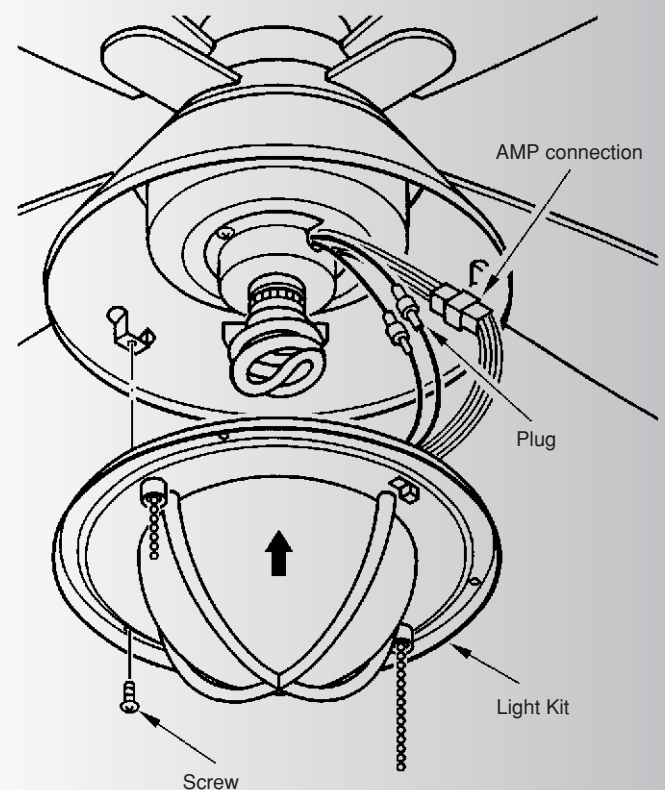

Fig. 17
Step 2. Connect the electrical wire plugs from the light kit to the same color plug from the ceiling fan by pushing them together. Connect the square AMP connector from the ceiling fan and the light kit by match up the color on the side of the connector, and then push them together until the snap engages. (Fig.17)